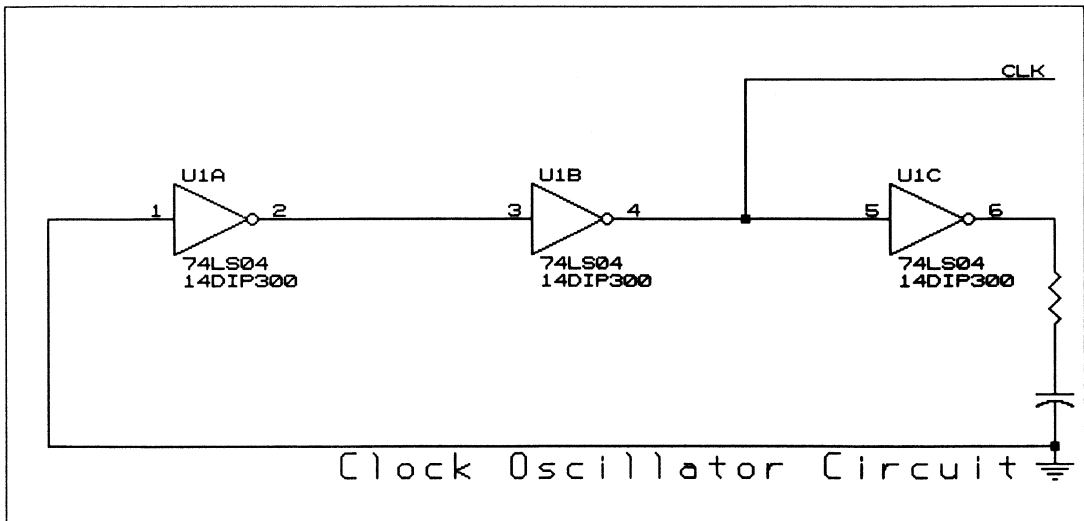

Figure 3-1. Clock oscillator circuit schematic.
Figure 3-1 shows the schematic diagram of the clock oscillator circuit you create in this chapter. Refer to this figure for placement and orientation information while capturing the clock oscillator schematic.
Compare your worksheet with figure 3-1. Your worksheet should contain the parts shown in figure 3-1, but not the wires.
6. To complete the wiring, place wires between the remaining parts as shown in figure 3-1.
A junction is also required where the wire connects between the middle and right-hand inverters and ends at a point above and to the right of the rightmost inverter and is labeled CLK in figure 3-1.